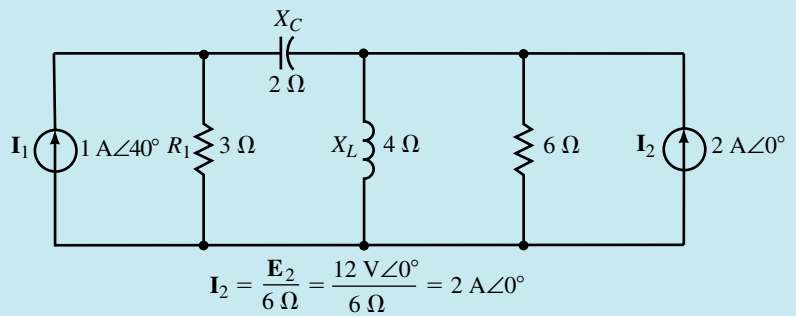

FIGURE 19-24
Step 1: Convert the voltage source into an equivalent current source as illustrated in Figure 19-24.